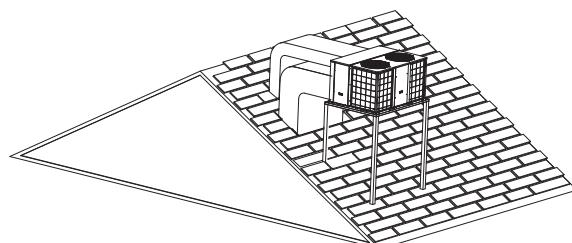

Fig.5-2
- Typical rooftop application with frame.(See Fig. 5-2)